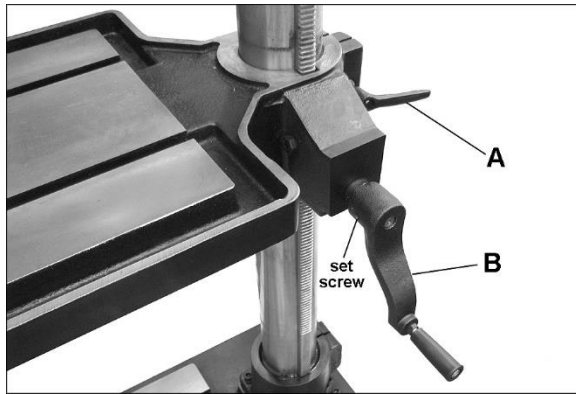

Figure 7-1: table adjustments
Install crank handle onto worm gear shaft to raise and lower table. See B, Figure 7-1. Secure handle by tightening set screw.
To raise or lower table, loosen lock handle (A, Figure 7-1) and rotate crank (B). Always tighten lock handle before operations. Note: Lock handle can be repositioned – pull out on handle, rotate, and allow it to resettle on pin.